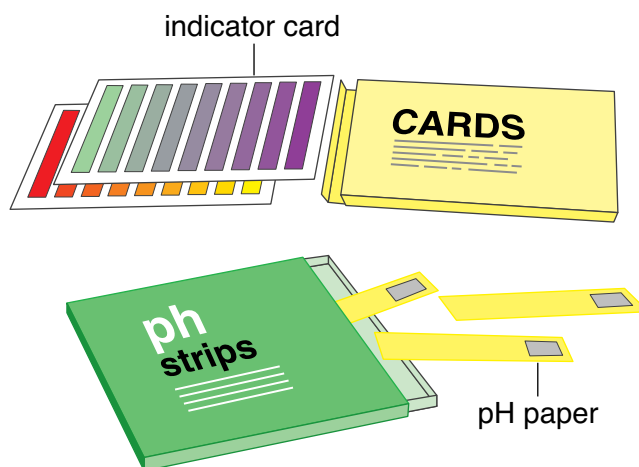

Figure 2
4. Test the pH of toothpaste 1 by placing a strip of pH paper into the test tube (or scooping a small amount out of the tube with a spatula and testing the small sample). Compare the color of the strip to the indicator card and record the pH of the solution on the data table (see Figure 2). Repeat with samples 2 through 5.